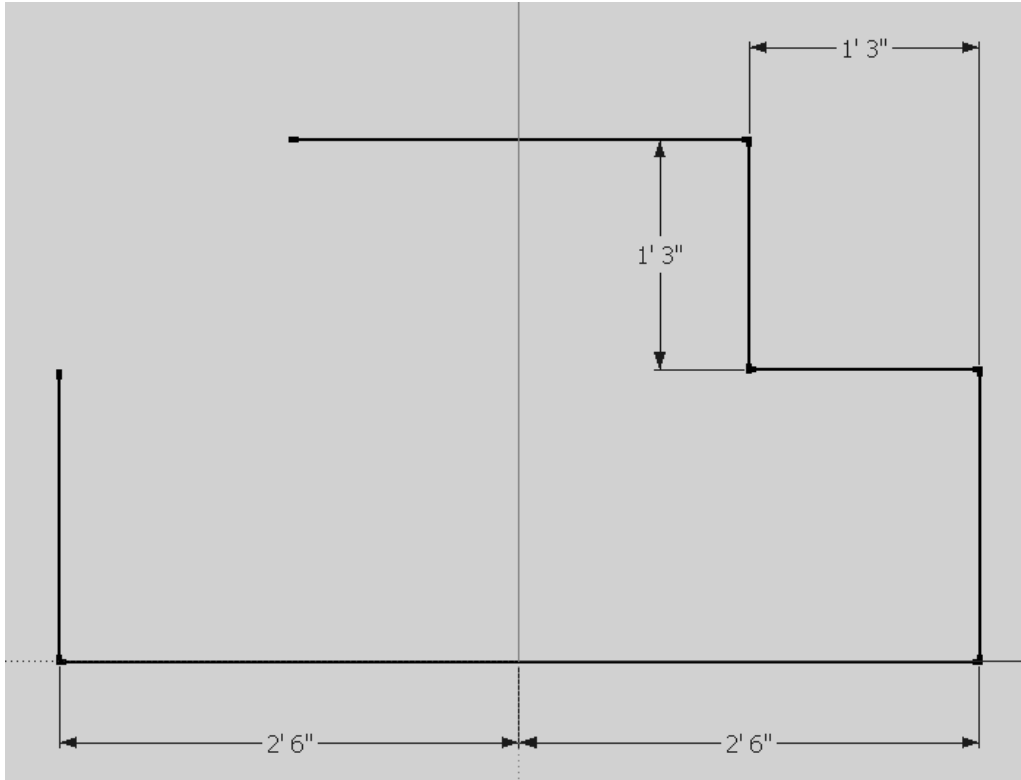

FIGURE 4-2.15 Setting things up for the arc tool
48. Add the orthogonal lines shown in Figure 4-2.15.